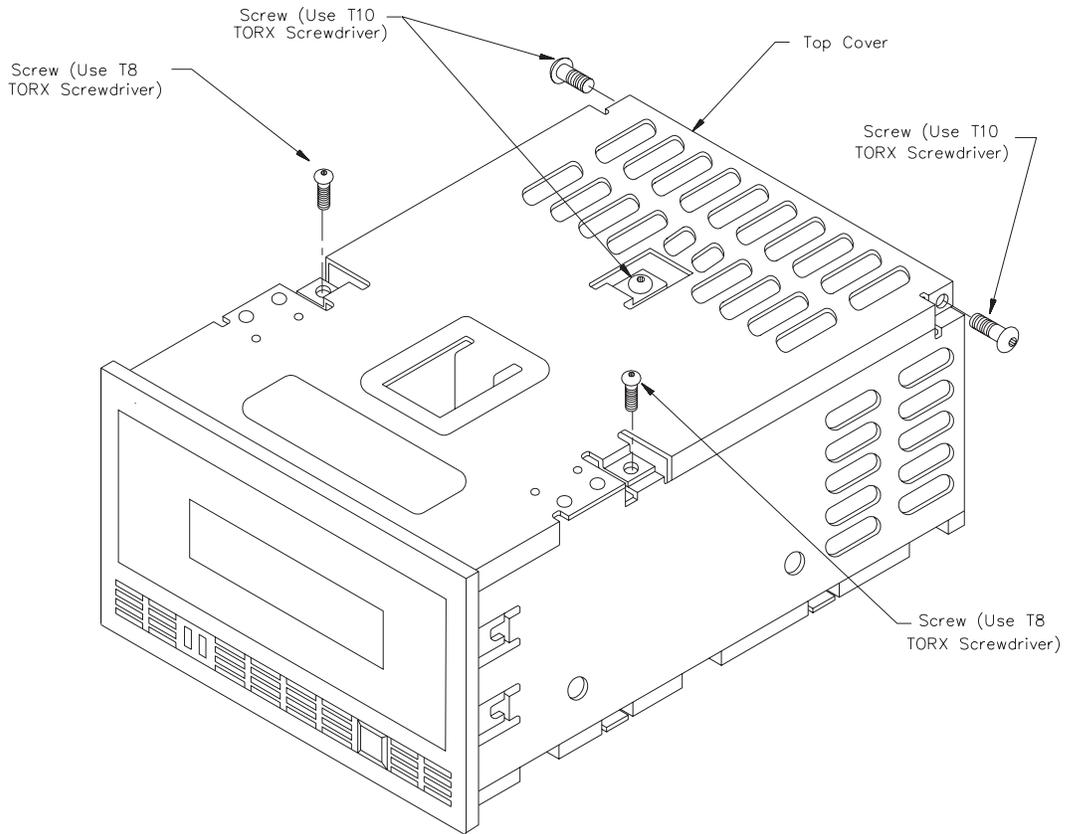

Figure 4-1
1. Remove the five screws that hold the top cover of the EXB-8200 in place. Figure 4-1 shows the locations of these screws. Three of the screws are located on the top of the cover, and the other two screws are located on each side of the cover at the rear of the EXB-8200. The two screws located on the top of the EXB-8200 near the edges require the use of a T8 TORX screwdriver, and the remaining three screws use a T10 TORX screwdriver.
(same as Figure 4-1)